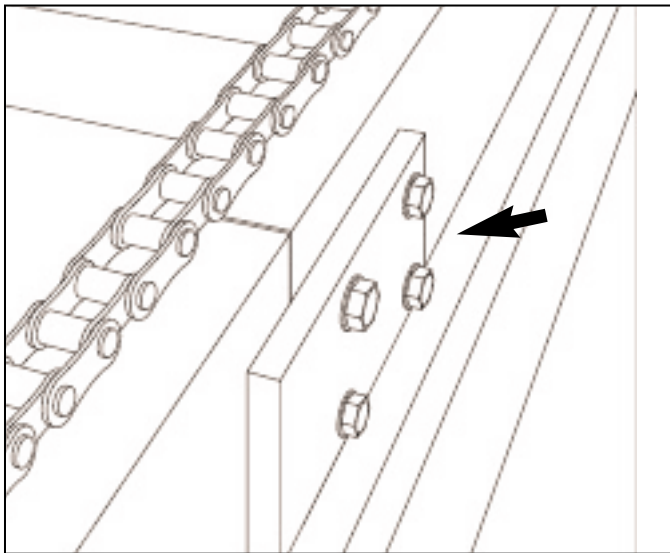

Figure 3.25 SPLICE PLATE.
3.9.2.1 Depending on conveyor length, it may be necessary to assemble conveyor together. If this is the case, locate splice plates (figure 3.25) and assemble conveyor together.